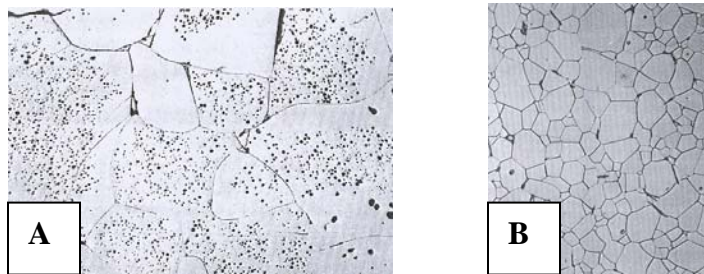

Figure 2: Ceramic microstructures with almost identical chemical composition.
- [b] From Figure 2, what would be the major differences in properties between Sample A and Sample B? Assuming both samples having almost identical chemical composition, suggest how would you convert microstructure A to microstructure B?